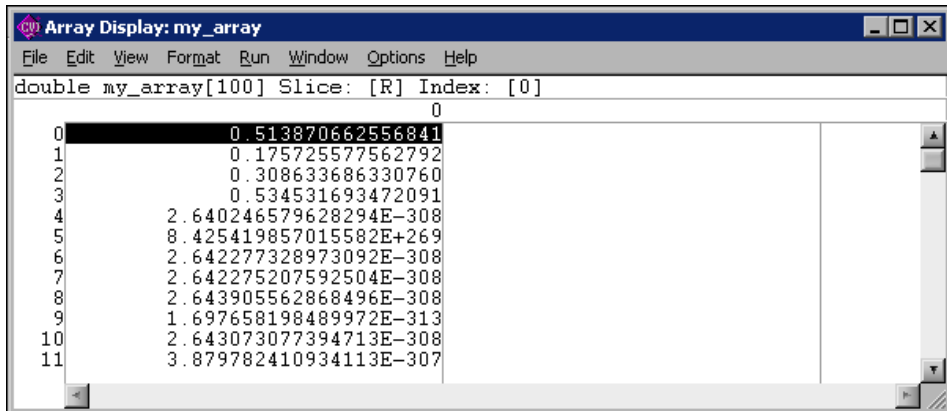

Figure 4-3. Array Display
3. In the Variables window, double-click `my_array`. The display shown in Figure 4-3 appears on your screen.
Note The actual values in your array might differ from the values shown in Figure 4-3. This example generates numbers between 0 and 1. The numbers shown in Figure 4-3 for index 4 through 11 are invalid, uninitialized values.
The Array Display shows the values of array elements in tabular format. In Figure 4-3, the array, `my_array`, is a one-dimensional array, so the display consists of one column of numbers. The numbers in the column on the left side of the display indicate the index number. The first element is zero.